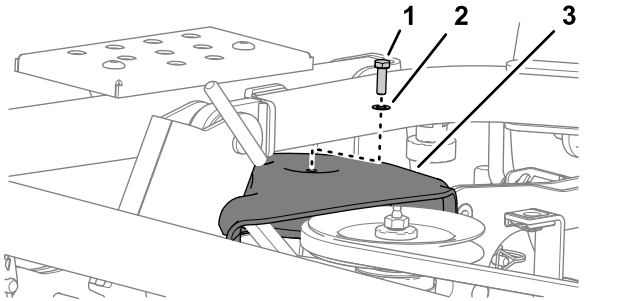

Figure 117
2. Remove the bolt and washer that secure the pulley cover to the mower deck (Figure 117).
1. Align the pulley cover over the right-most pulley; refer to Figure 117 in Removing the Pulley Cover \(page 78\).